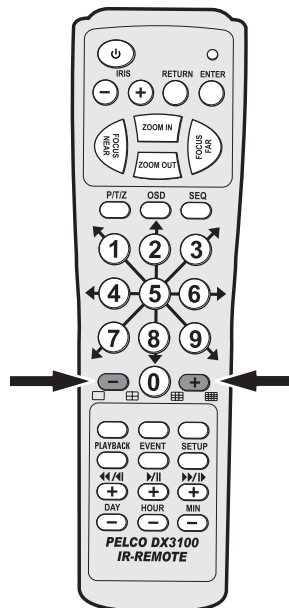

Figure 10. DX3100-IR Remote Synchronization
2. Press the - and + buttons on the IR remote controller simultaneously. These buttons are located on the left and right side of the 0 button (refer to Figure 10).